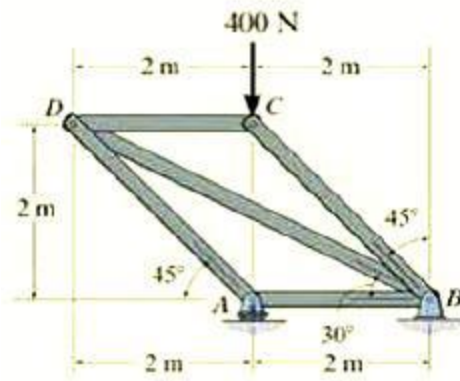

Figure Q3 Structure under loading.
- (a) For the structure under loading as shown in Figure Q3, determine the reactions at the supports. [4]